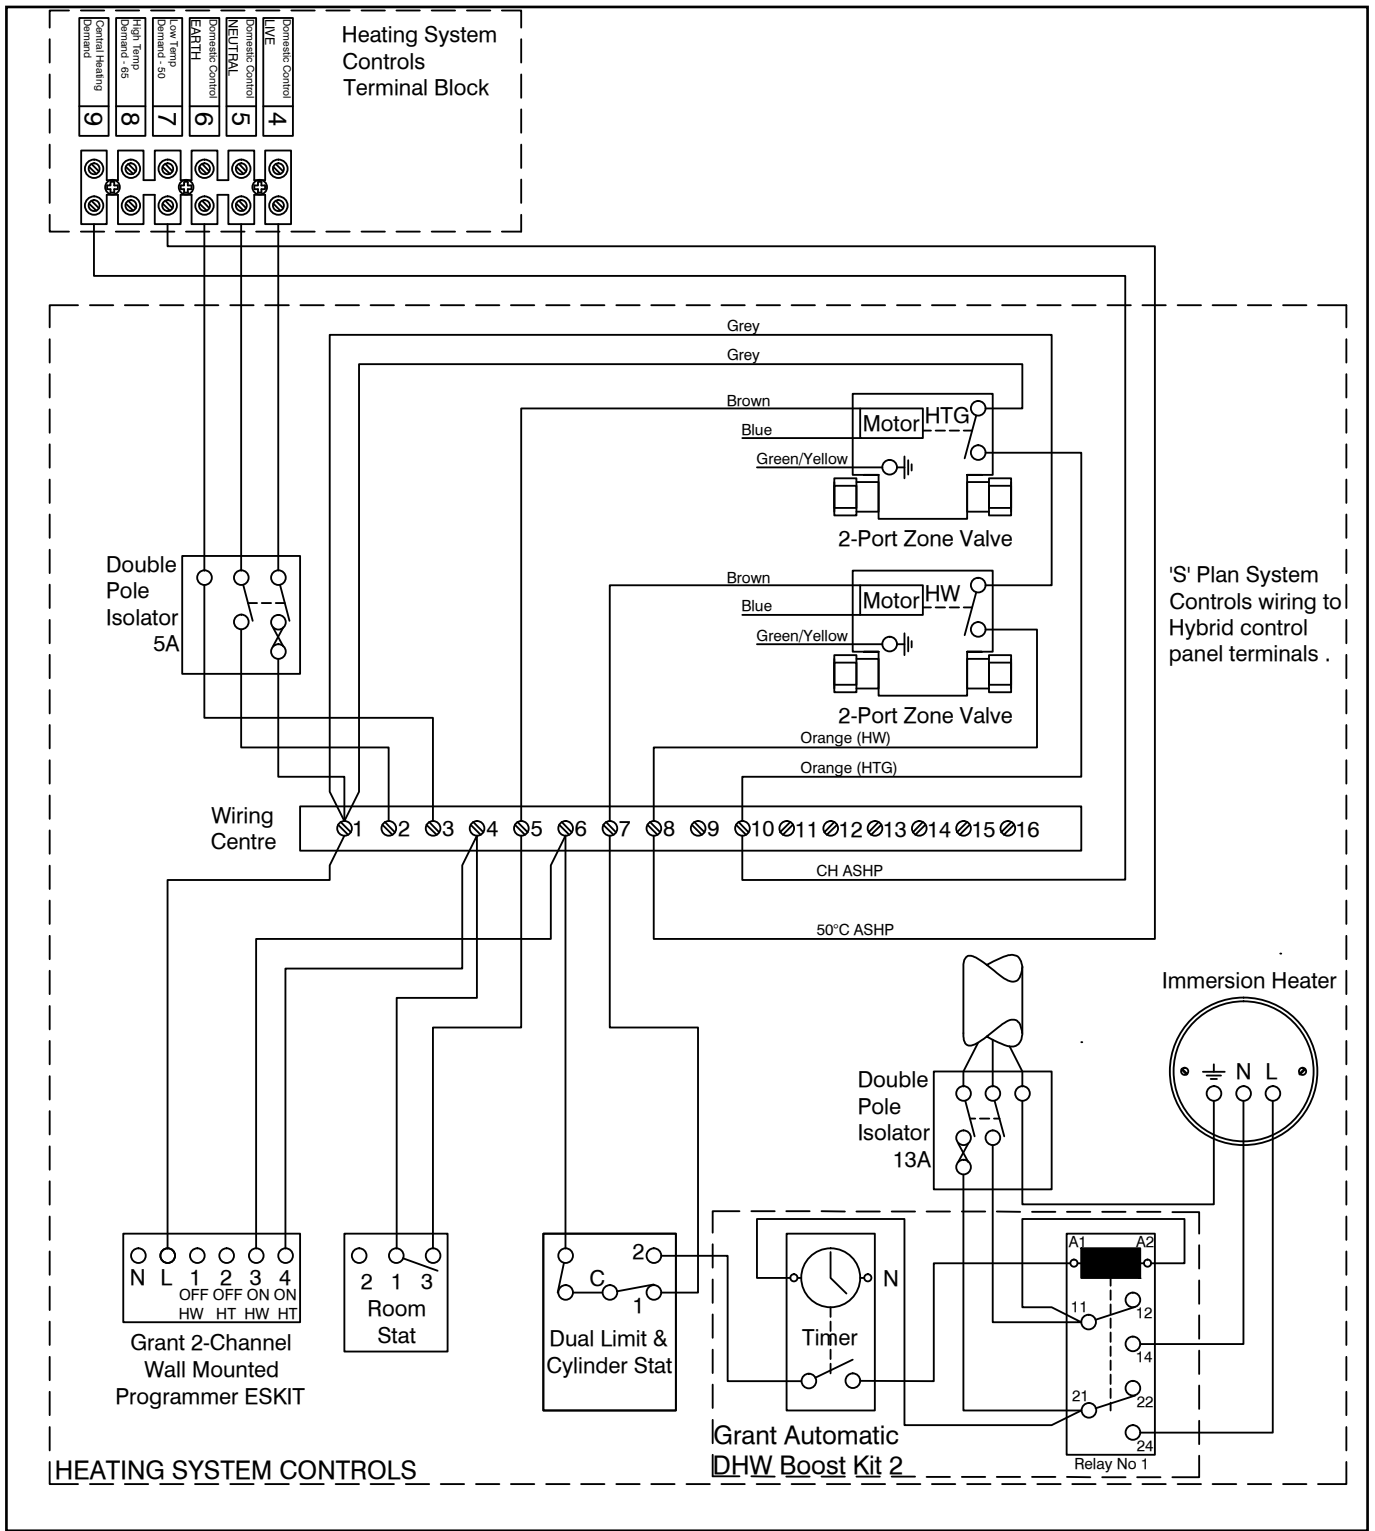

Figure 12-8: Heating controls - S-plan with cylinder stat and boost kit (HW provided by heat pump and immersion heater)
In addition a Grant Automatic DHW Boost Kit 2 is fitted to provide legionella protection. Refer to Figure 12-8.
In order to connect and use this kit, the existing cylinder thermostat must have two output terminals; one 'make on rise' (normally open) contact and the other 'break on rise' (normally closed) contact. Refer to Figure 12-8. If not, then the cylinder thermostat MUST be replaced with one that does have two output terminals.
Do not alter the pre-wired connections within the Boost Kit enclosure and only make the external connections as shown in the wiring diagram. See Figure 12-8.
2. Disconnect the DHW demand connection from terminal 7 on the Heating system controls terminal block (in the hybrid control panel) and connect it to terminal 8 instead. Refer to Figure 12-8.